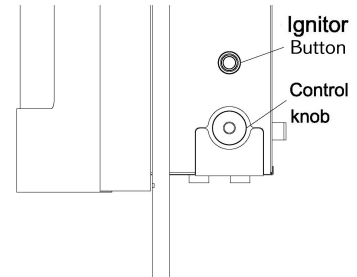

Figure 17 – Control Knob in the OFF Position
4. Turn control knob clockwise  to the OFF position. (See Figure 17).
5. Wait five (5) minutes to clear out any gas. Then smell for gas, including near the floor. If you smell gas, STOP!